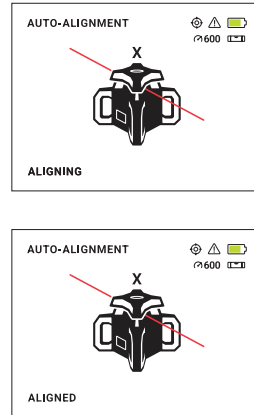

Fig.29
- Press the **auto-alignment button** to begin auto-aligning the laser beam to the level position on the detector. The auto-align indicator will flash until the level position is found and then become solid. The LCD screen on the laser level will display the word 'aligning' while the laser aligns itself and the word 'aligned' when alignment is achieved (Fig.29). The following icon will be displayed on the LCD screen on the laser level and remote control: